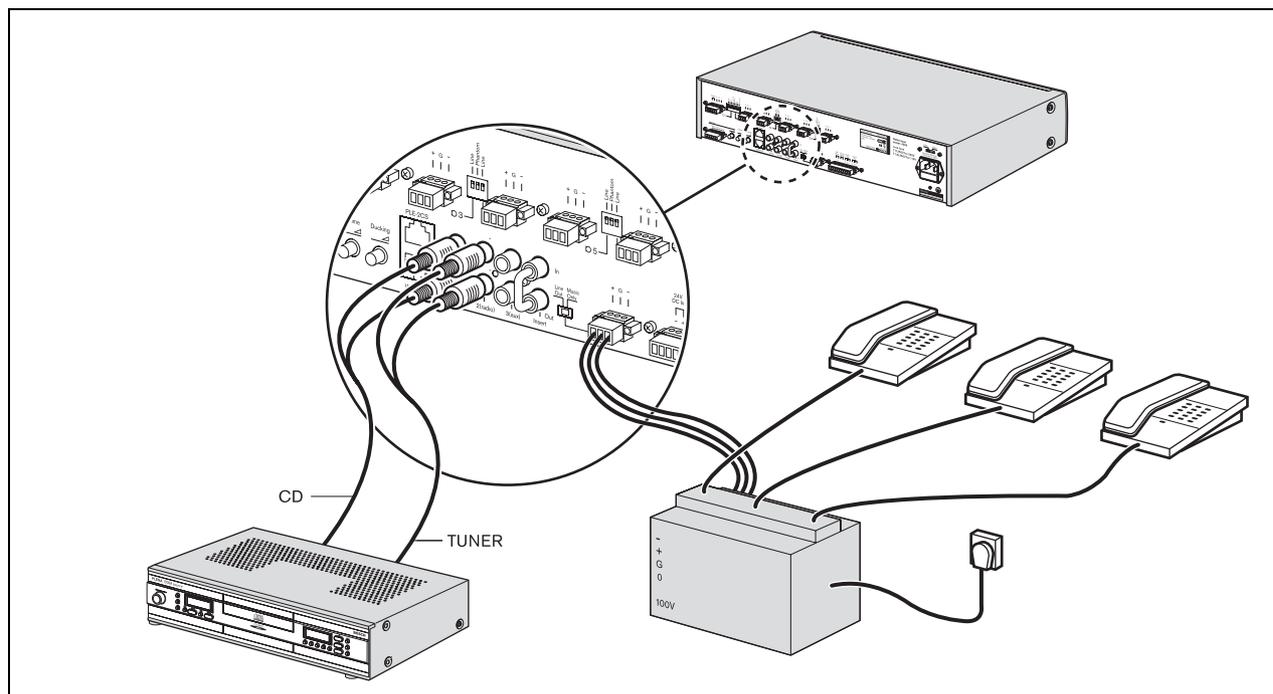

figure 4.7: Connecting music source inputs
Use the music master output connector (22) to provide a dedicated music out source for another device. For example, the music master output can be connected to a telephone coupler, so that callers can listen to music when they are put on hold (see figure 4.7).
Use the Pre-out, amp in insert (20) for external sound processing equipment (e.g. an equalizer or Plena feedback suppressor) to be connected between the preamplifier and the power amplifier stages. See figure 4.7.